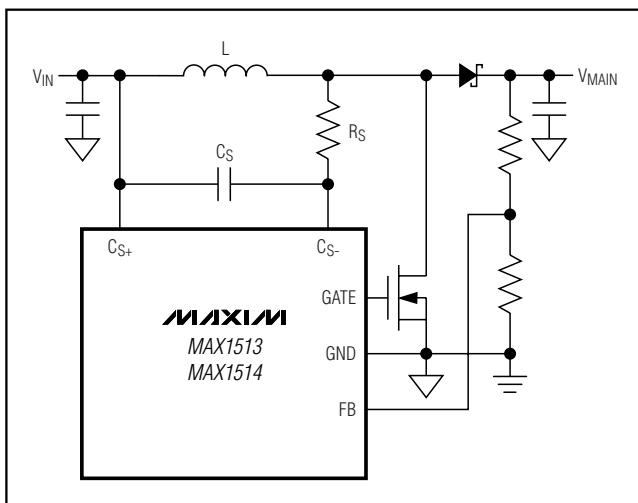
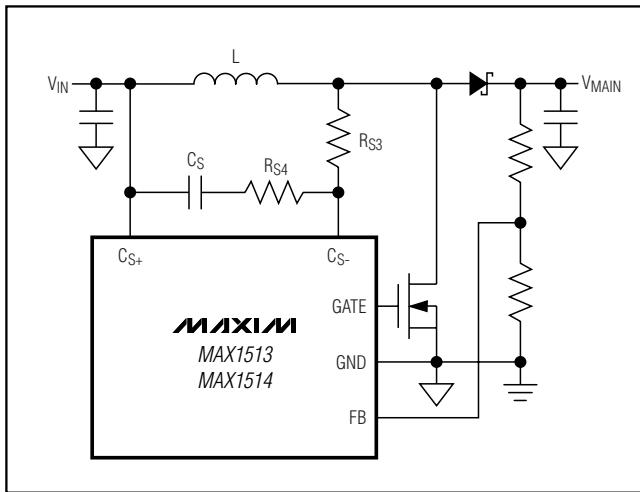

Figure 8. Lossless Current Sensing with $80mV < V_{SENSE} < 100mV$
Figure 10. Lossless Current Sensing with $V_{SENSE} < 80mV$
4) Compare the calculated sense voltage with the minimum value of the current-limit threshold in the *Electrical Characteristics* (100mV). If the sense voltage is between 80mV and 100mV, use the current-sense configuration in Figure 8 with the calculated C_S and R_S above.
6) If V_{SENSE} is less than 80mV, the current-feedback signal is low relative to the current-limit threshold. Use the Figure 8 configuration, or, if good current-limit accuracy is desired, use the optional current-sense configuration in Figure 10 to increase the amplitude of the sense signal. Calculate R_{S3} and R_{S4} :
Because V_{SENSE} would be between 80mV and 100mV, the circuit in Figure 8 should be used. The closest 1% standard value for R_S is 909 Ω .
Because V_{SENSE} would be much less than 80mV, the circuit in Figure 10 can be used to improve the current-limit accuracy. Calculate RS_3 and RS_4 :